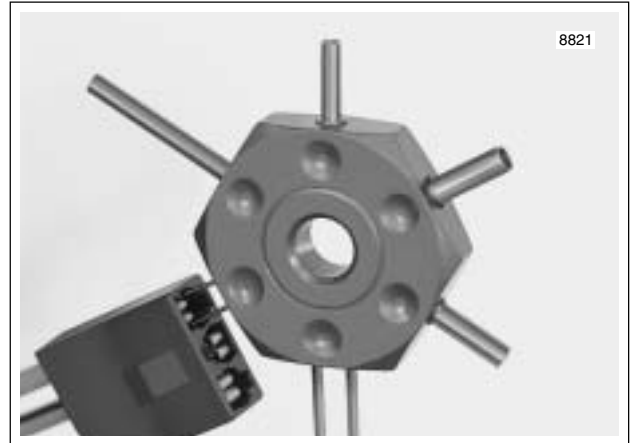

Figure B-39. Depress Tangs and Remove Terminal
1. Obtain terminal pick (Snap-on® GA500A) like that shown Figure B-39.